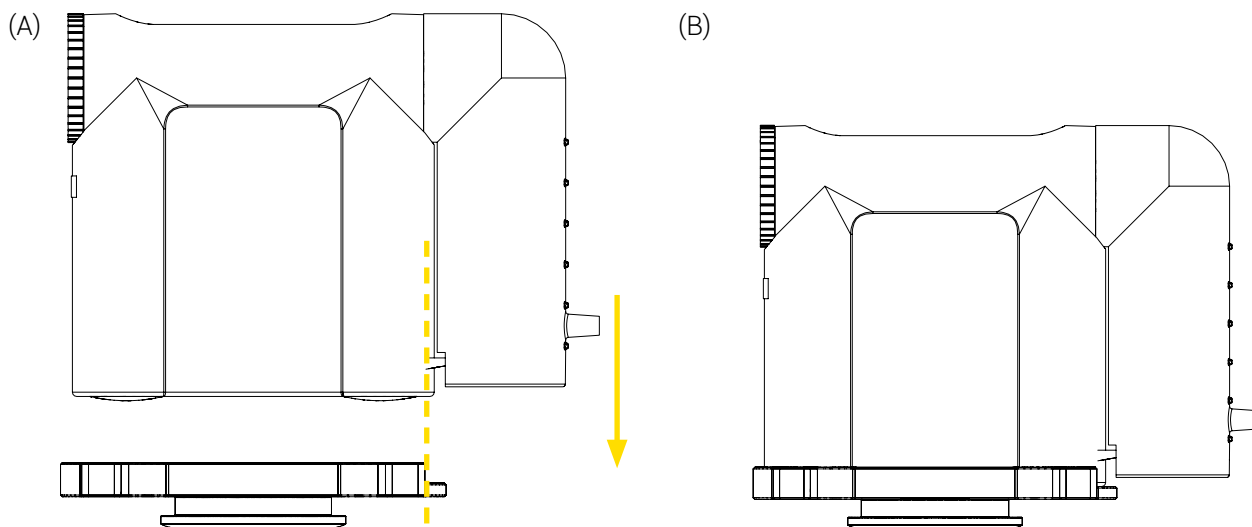

Figure 3: Installing the suction unit in the bottom plate
1. Lift the suction unit and insert it in the bottom plate, ensuring that the bottom of the medical device lays flat and centered in the plate (Figure 3 A).
2. Move the suction unit back and forth, then left to right a few times to ensure it is properly inserted in the bracket and immobile (Figure 3 B).